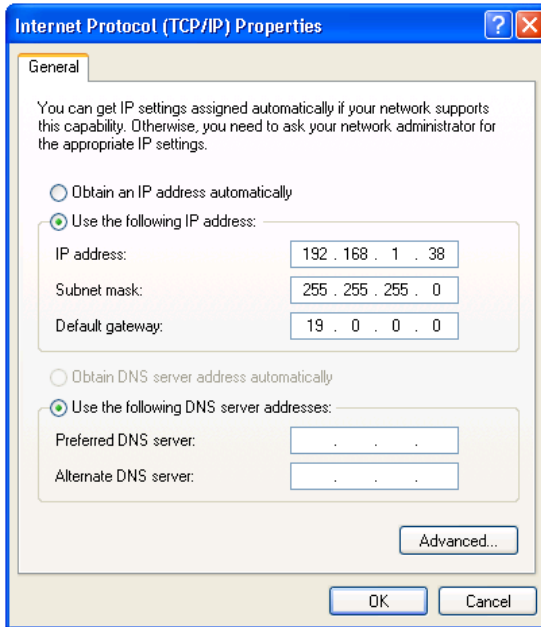

Figure 7: Internet Protocol (TCP/IP) Properties Window
6. Select **Use the following IP Address** and enter the details as shown in Figure 7. You can use any IP address in the range 192.168.1.1 to 192.168.1.255 (excluding 192.168.1.39) that is provided by your IT department.